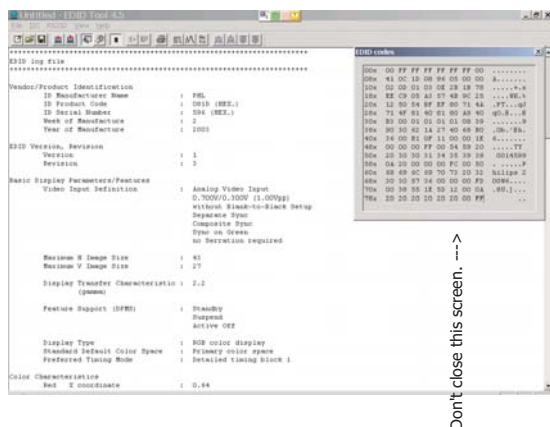

Fig. 14
- Click  icon (Read EDID function) to read DDC EDID data from monitor. The EDID codes will display on screen as shown in Fig. 14.